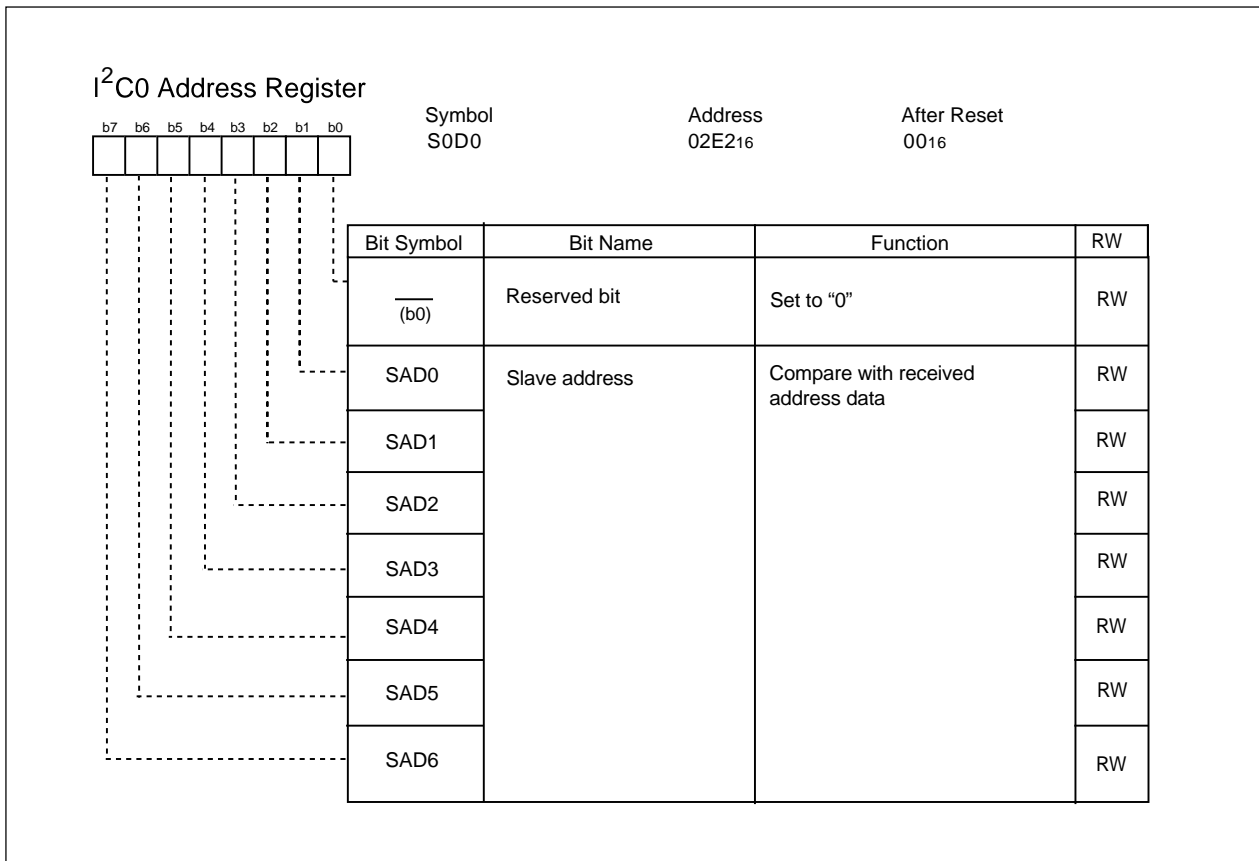

Figure 16.2 S0D0 Register
**Figures 16.2 to 16.8** show the registers associated with the multi-master I2C bus.